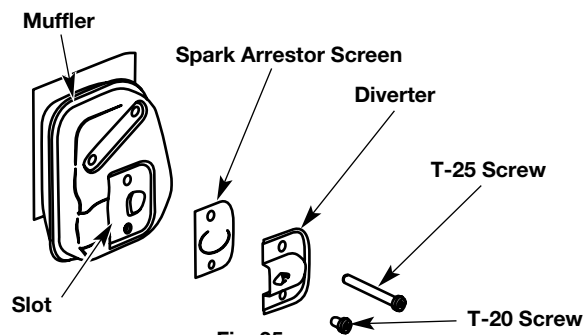

Fig. 35
2. With a flat blade screwdriver or Torx T-20 bit and a T-25 bit, remove the screws attaching the spark arrester diverter to the muffler (Fig. 35).